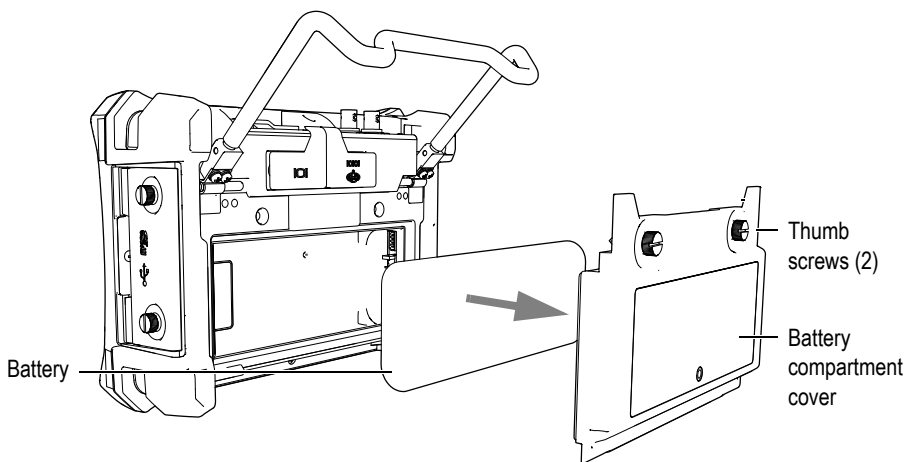

Figure 1-10 Removing the battery compartment cover and the lithium-ion battery
2. Loosen the two thumb screws securing the battery compartment cover at the back of the instrument, and then remove the battery compartment cover (see Figure 1-10 on page 31).
3. Remove the lithium-ion battery (if installed) [see Figure 1-10 on page 31].